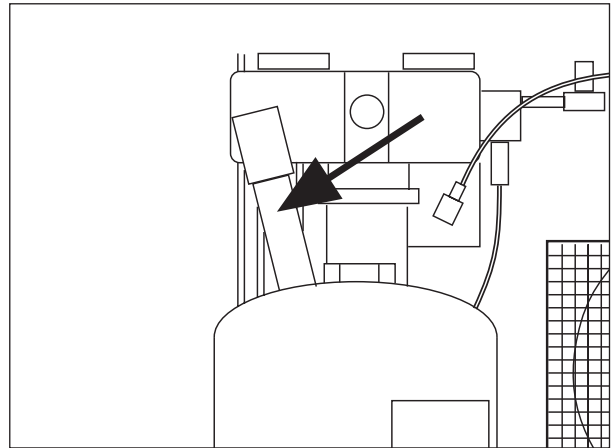

Fig. 15
- Before each commissioning, check the safety valve (fig. 15) for function by turning the knurled cap at the safety valve (at operating pressure).
Before each commissioning, check the safety valve (fig. 15) for function by turning the knurled cap at the safety valve (at operating pressure). The safety valve can be hot as a result of preceding operation. A functional check must only be carried out at operating pressure. Be careful with escaping air (danger of burning and scalding).